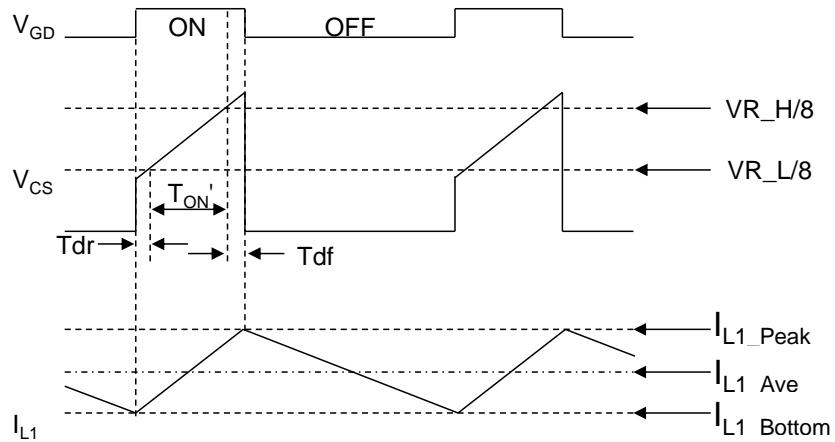

Figure 23. Time Waveform with Group Delay
As mentioned in “2) Switching Frequency”, the inductance value of the coil is determined by input/output voltage conditions and switching frequency [Fsw]. However, the setting calculations for the RVLY pin and the CS pin do not include group delay of the circuit. For example, ΔI_{L1} does not include group delay but T_{ON} includes group delay in equation (10). Therefore, a T_{ON} value without group delay must be calculated to determine the coil inductance by equation (10). Figure 23 shows a detailed time waveform of the GD pin voltage, the CS pin voltage and the coil current, which is shown in Figure 2, with group delay.
In Figure 23, T_{dr} indicates group delay from a rising of the GD pin voltage to a falling of the A2 comparator. T_{df} indicates group delay from a peak current detection of the CS pin to a falling of the GD pin voltage. Although these values vary depending on the characteristics of M_1 and IC performance, group delays are approximately determined by following expressions.